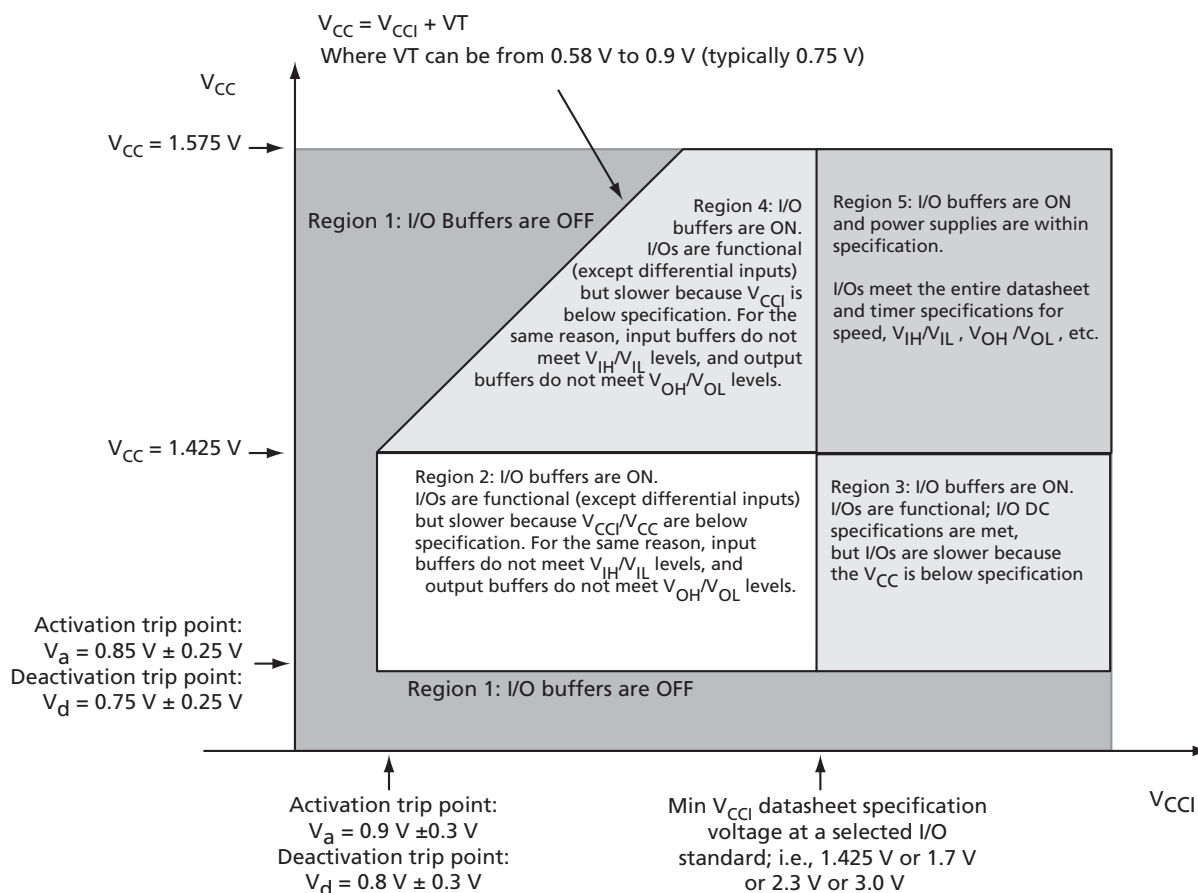

Figure 3-1 • I/O State as a Function of  $V_{CCI}$  and  $V_{CC}$  Voltage Levels
Sophisticated power-up management circuitry is designed into every Fusion device. These circuits ensure easy transition from the powered off state to the powered up state of the device. The many different supplies can power up in any sequence with minimized current spikes or surges. In addition, the I/O will be in a known state through the power-up sequence. The basic principle is shown in Figure 3-1 on page 3-6.
1.  $V_{CC}$  and  $V_{CCI}$  are above the minimum specified trip points (Figure 3-1).
Actel recommends using monotonic power supplies or voltage regulators to ensure proper power-up behavior. Power ramp-up should be monotonic at least until  $V_{CC}$  and  $V_{CCPLX}$  exceed brownout activation levels. The  $V_{CC}$  activation level is specified as 1.1 V worst-case (see Figure 3-1 on page 3-6 for more details).